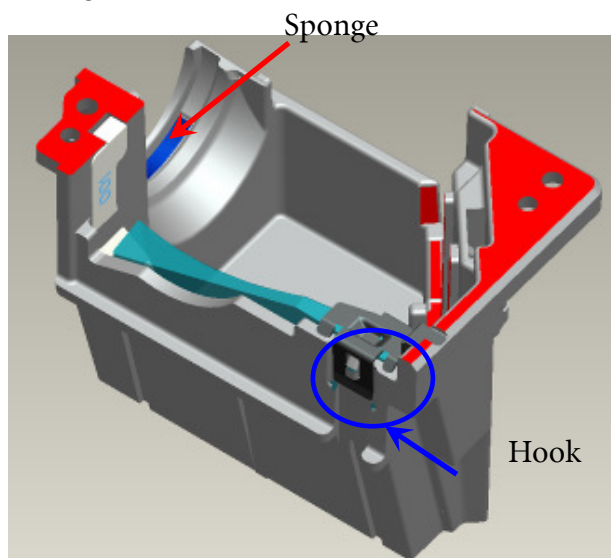

Fig. 2-5
- v. To check and make sure Clip CM Up hooks the Sub HSG Well (Fig. 2-5).
- vi. Paste "Sponge tube AL" on cannellure of "HSG ILL" (Fig. 2-5).